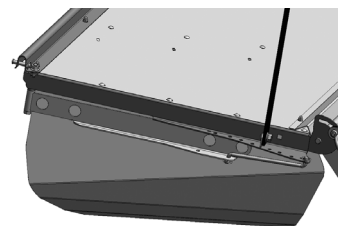

Figure 1
1) Windrow Width Adjustment. See Figure 1